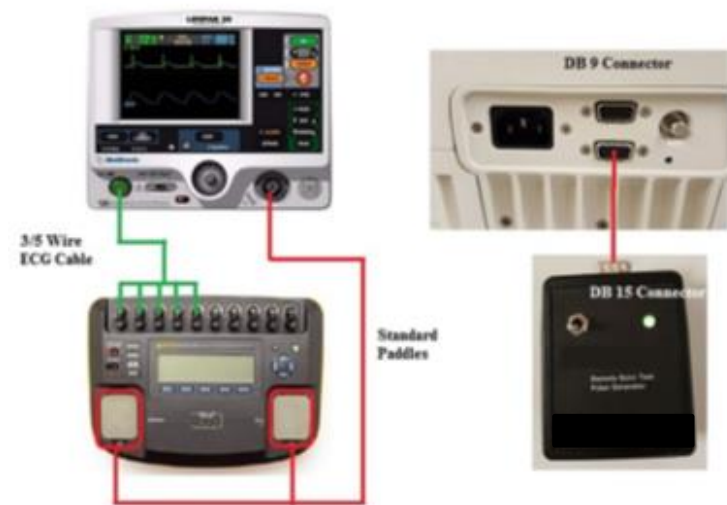

Figure 1.25: Standard Paddles Sync Remote Test Setup
1. Establish the setup as shown in Figure 1.25.